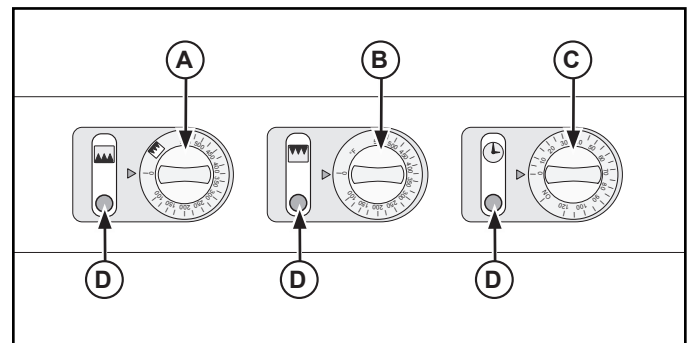

Figure 1. 40703 and 40701 Controls.
2. Close the door and turn the bake control (A) to 525°F (274°C), set the timer (C) for 30 minutes. During this burn-in you may notice a slight odor, this is normal. See Figures 1 and 2.